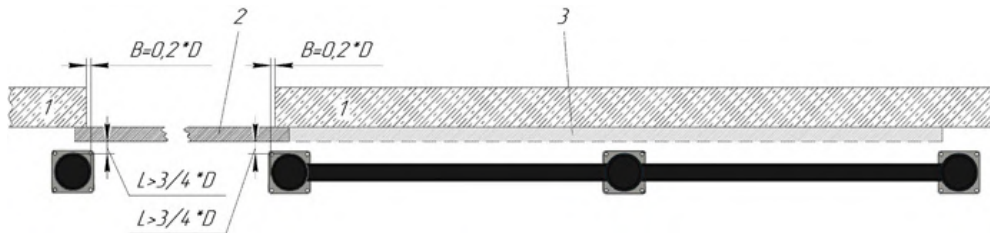

Figure 8. Distances that are recommended to be observed during the barrier installation.
In the process of installing the BV140/1000, BRD140 and BRD140(01) barriers, the recommended distance from the objects to be protected must be observed (Figure 8).
Symbols in Figure 8: 1 – wall, 2 – sliding door in the closed position, 3 – sliding door in the open position.